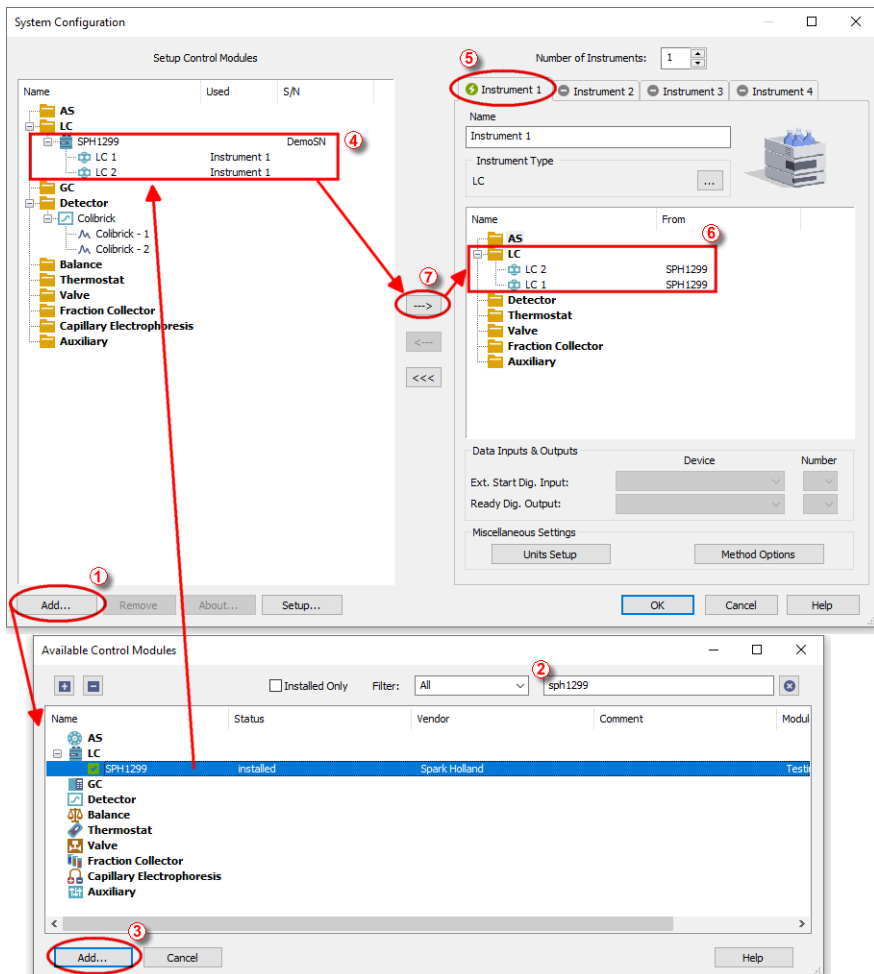

Fig 2: System Configuration
- Press the **Add** button ① (see Fig 2 on pg 4.) to invoke the **Available Control Modules** dialog.
- You can specify the searching filter ② to simplify the finding of the driver.
- Select the **SPH1299** pump and press the *Add* ③ button.